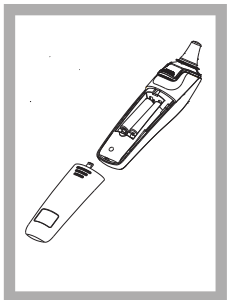

Figure 12
- Remove battery and install 2 new AAA alkaline batteries as shown in Figure 12 .